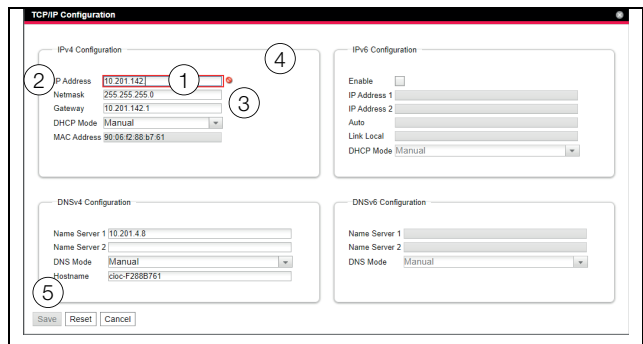

Fig. 132: Display of an incorrect entry
- A red "prohibited symbol" (fig. 132, item 3) appears after the incorrect entry (fig. 132, item 2) in the **Netmask** field (fig. 132, item 1)
- By holding the mouse pointer over the prohibited symbol, additional information about the error will appear (fig. 132, item 4).
- The **Save** button is deactivated (fig. 132, item 5), so that the current values cannot be saved.